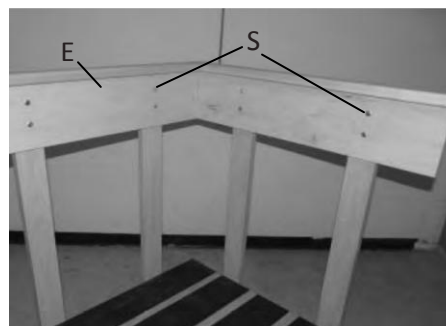

Figure 7: Straight Handrails ‘E’
7. Attach uprights (‘J’ & ‘K’ respectively) onto the 3-Step section using four Hex head bolts ‘Q’ on the bottom of the uprights and two on the top of the 2nd step and two Pan Head/Philips screw ‘R’, Flat washer ‘U’ and Barrel Bolt ‘S’ on the rest as shown in Figure 7.
8. Insert the Barrel Bolt ‘S’ into the straight handrails on the opposite side of the dots as shown in Figure 7.
10. For the corner setup the corner is 'locked' together with the 'hook' & 'cup' fitting as shown in Figure 7 and for the straight setup the remaining handrails can only be setup one way for correct assembly.